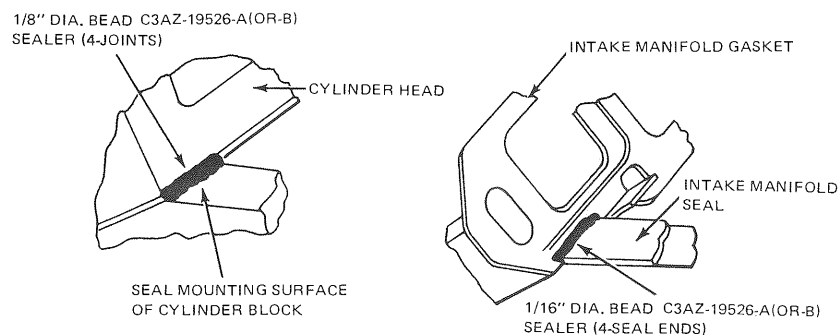

FIG. 43 RTV Sealer Installation Intake Manifold
2. Clean the mating surfaces of the intake manifold, cylinder heads and cylinder block using a solvent such as Ford Spot Remover (B7A-19521-A) or equivalent. Apply a 1/8 inch bead of RTV sealer, (C3AZ-19526-A or B) at the points shown in Figure 43.
3. Apply a 1/16 inch bead of RTV sealer to the outer end of each intake manifold seal for the full width of the seal (4 places). See Figure 43.